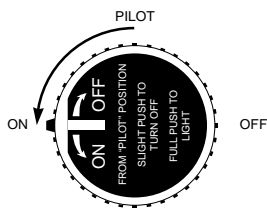

Figure 5 - ON Position
- When pilot remains lit, start heater by slowly turning control valve knob 1/4 turn to left to ON position (see Figure 5).